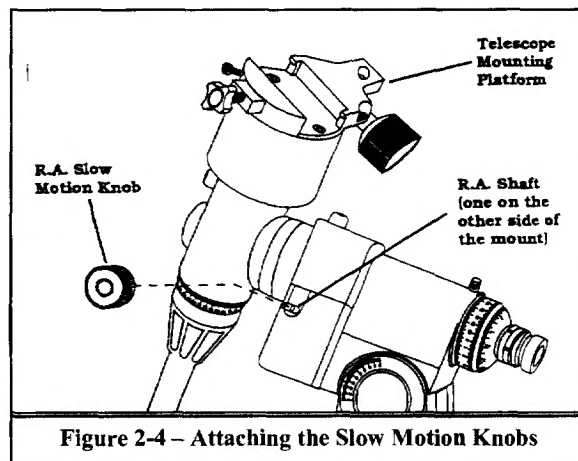

Figure 2-4 – Attaching the Slow Motion Knobs
3. Line up the flat area on the inner portion of the R.A. slow motion knob with the flat area on the R.A. shaft (see Figure 2-4).
2. Slide the DEC slow motion knob over the DEC shaft (see figure 2-4).